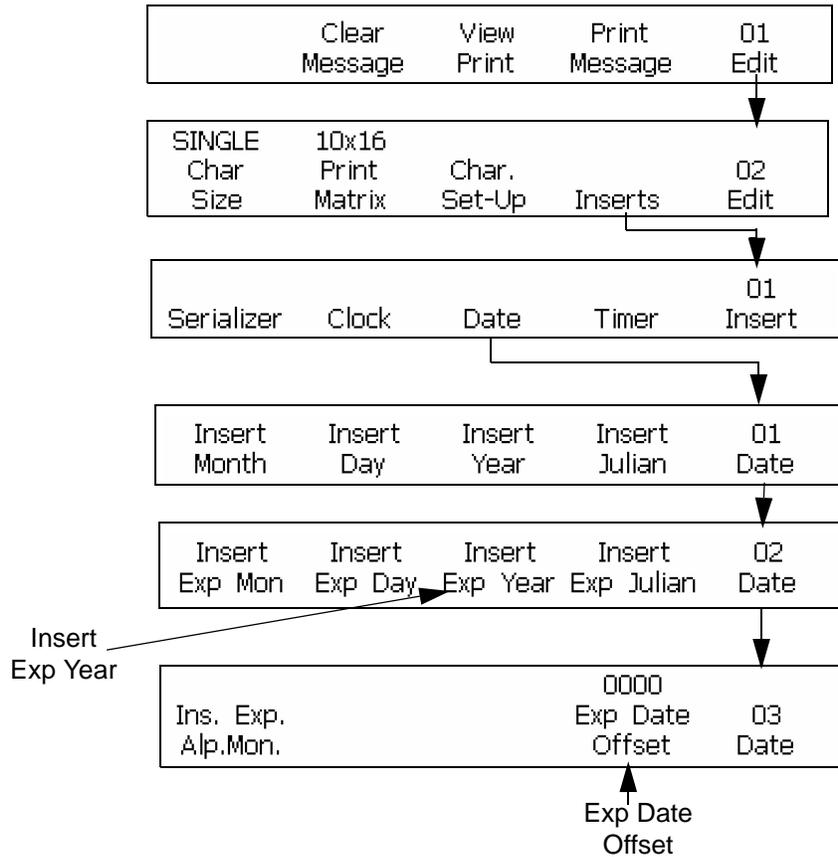

Figure 6-37: Accessing Frame <03 DATE>
- 1 Begin in the Frame <02 Date>. Refer to Figure 6-37 on page 6-47.
- 4 Press F5 to go to Frame, <03 Date>. Refer to Figure 6-37.